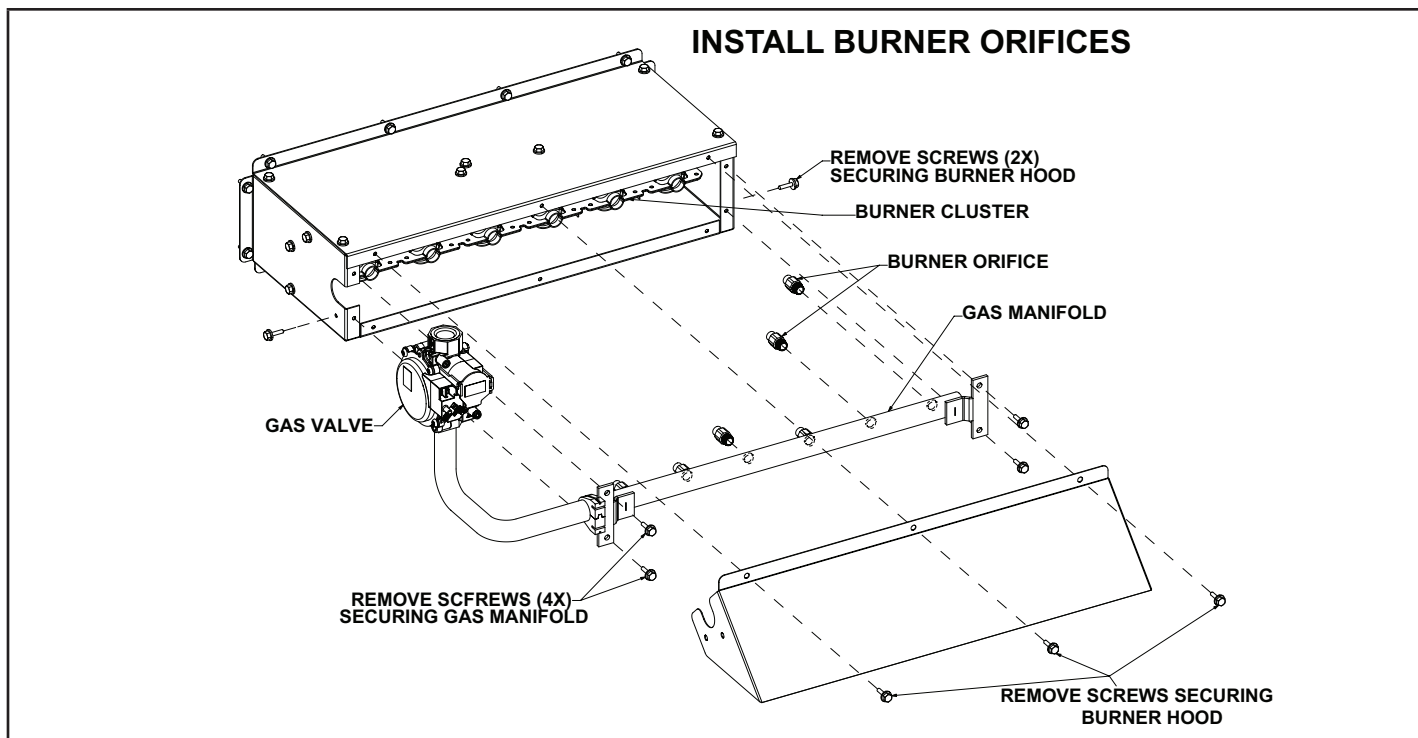

Figure 1
- 6 - Remove screws on the gas manifold assembly which holds the assembly to the burner box. See figure 1.